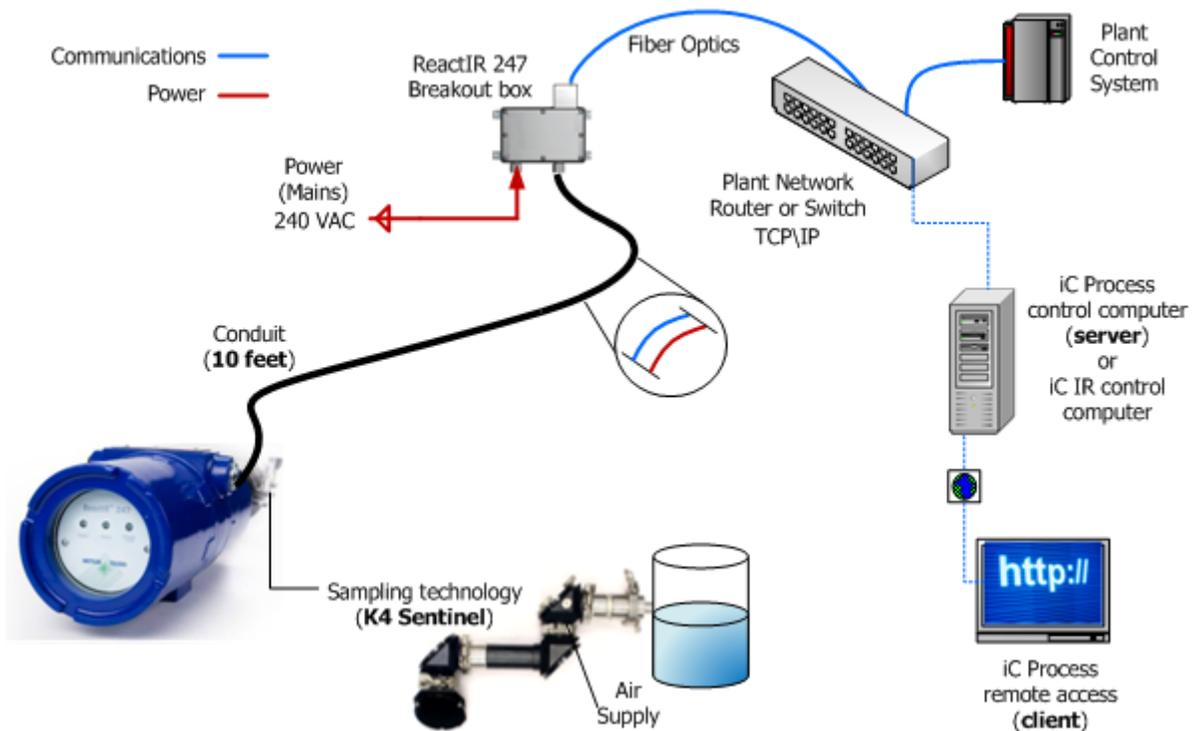

Figure 4-3 Typical HL—ATEX configuration
- In a typical HL—ATEX configuration (Figure 4-3), the breakout box has a bulkhead with a fiber optic connection for communications and the electrical conduit from the breakout box to the ReactIR 247 instrument is in one section.